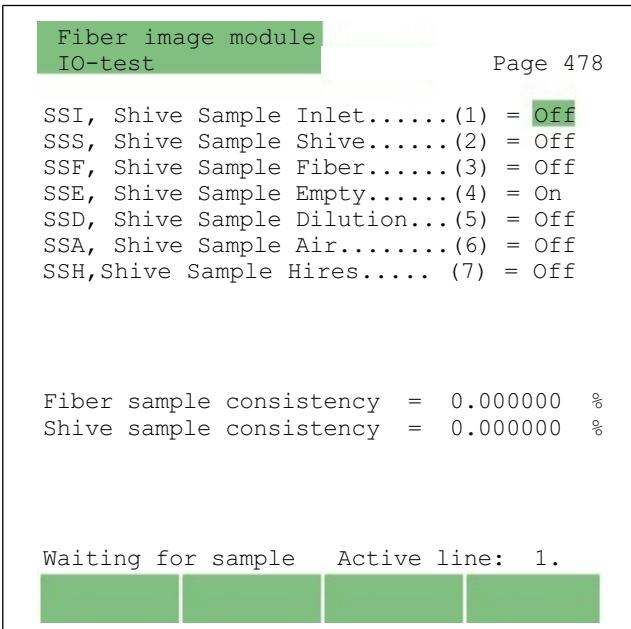

Fig. 7. IO test page of Shive measurement.
1. Watch the fiber measurement consistency, either from the shive measurement IO test page "Shive sample consistency" (Fig. 7), or alternatively from the result database of the IMG software. The consistency reading must be in the range 0,015 – 0,030 %, a good average for the different channels is 0,020 - 0,025 %.
1. Watch the fiber measurement consistency, either from the shive measurement IO test page "Fiber sample consistency" (Fig. 7), or alternatively from the result database of the IMG software. The consistency reading must be in the range 0.0015–0.0030 %, a good average for the different channels is 0.0020–0.0025 %.